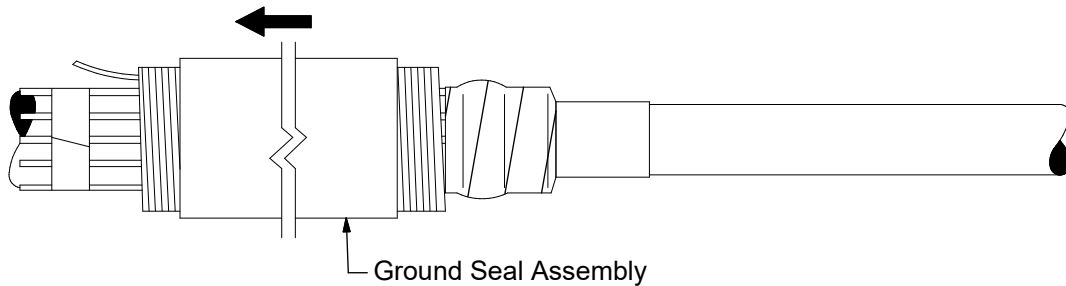

Figure 5
- Slide the ground seal assembly onto the cable jacket, loose core end first. (Figure 5)